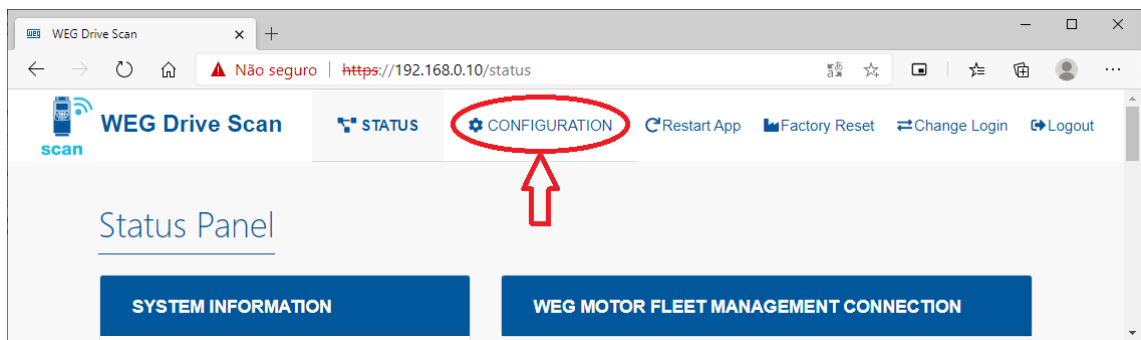

Figure 6.7: Drive Scan Status
Step 4 Click on the “CONFIGURATION” tab, as shown in Figure 6.7.